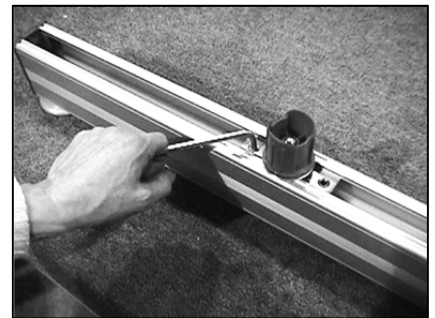

Figure 7
3. Using the same key, loosen the plastic post bath base so that it will slide easily (see Figure 7).